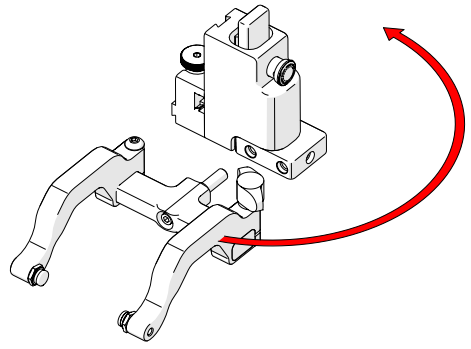

Fig. 43 - Orient to opposite side
2. Position the yoke and arms on the opposite side of the probe holder (Fig. 43).